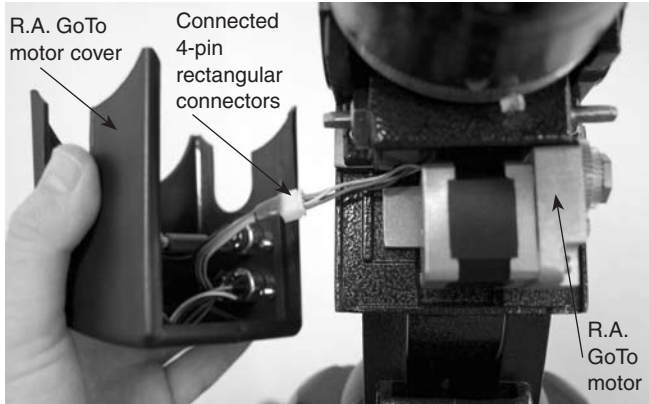

Figure 7. R.A. GoTo motor wiring
- Take the R.A. GoTo motor cover and hold it near the installed R.A. GoTo motor. On the inside of the motor cover, you will see a set of wires with a white 4-pin rectangular connector attached. Carefully connect the 4-pin rectangular connector attached to the R.A. GoTo motor cover to the corresponding 4-pin rectangular connector on the R.A. GoTo motor. Once connected, the wiring of your R.A. GoTo motor should resemble Figure 7.